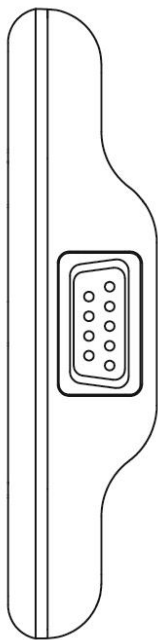

Figure 3
1. Insert the plug of the sensor into the socket of the pulse oximeter. (Socket as shown in **Figure 3**)